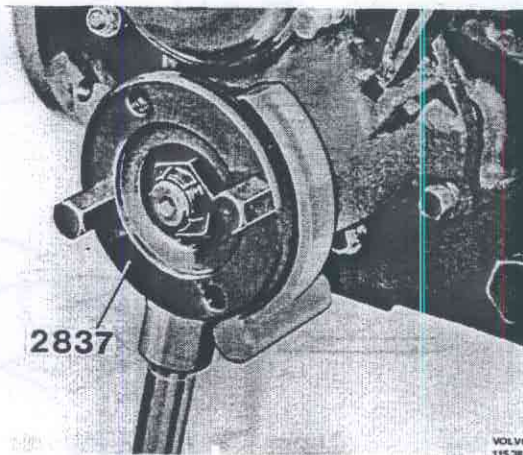

Fig. 43-29. Fitting counterhold
2. Fit counterhold 2837, see Fig. 43-29, on the flange (applies only to the control mechanism). Unscrew the nut.